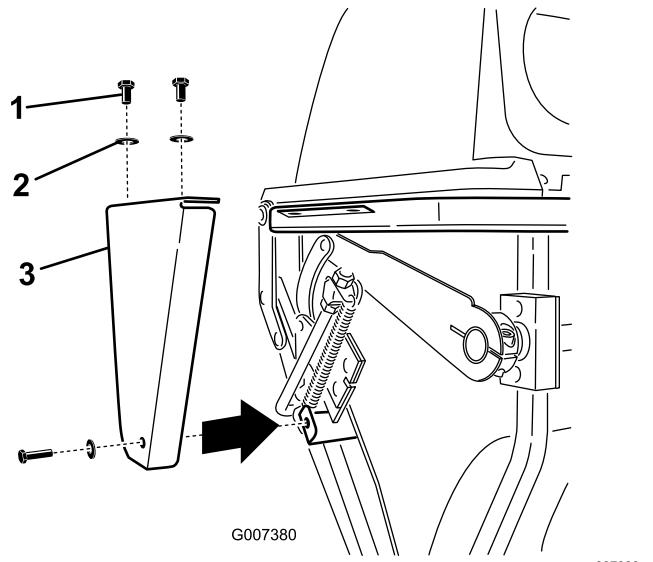

Figure 54
1. Remove the side plate from both sides of the bagger (Figure 54).